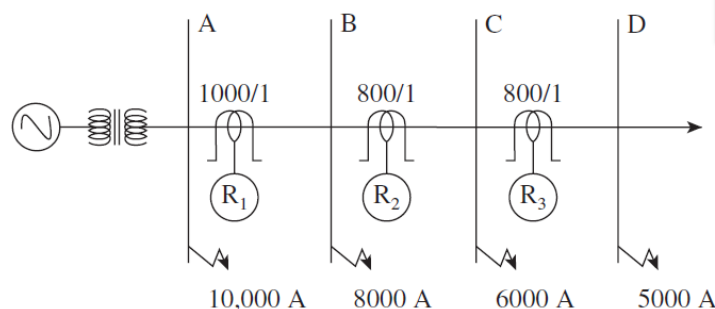

Fig.1 Single line diagram of radial distribution system
Fig. 1 shows the single line diagram of a portion of a radial distribution system. The plug setting (PS) of $R_3 = 75\%$ of CT secondary. The TDS of $R_3 = 0.1$. The normal range of PS is 50-200% of 1 A in steps of 25%, whereas the TDS setting range is 0.1 to 1 s in steps of 0.05. What would be the PSs of the relays R_1 and R_2 ?